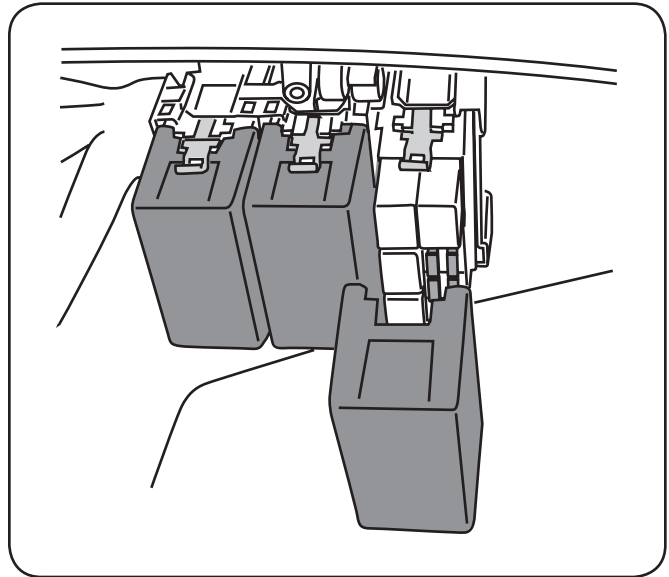

**Figure 6-1**
2. Turn the bulb/socket assembly approximately a quarter turn counterclockwise to align its tabs with the notches of the reflector, then remove from the reflector. See Fig. 6-1.